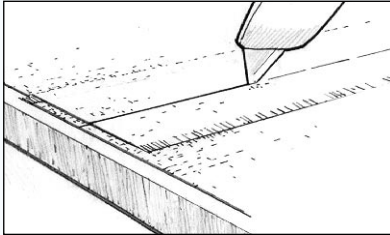

Figure 26 Trim overlapped cloth after the epoxy gels.
- b) Cut through both layers of cloth with a sharp utility knife (*Figure 26*), being very careful not to cut too deeply.